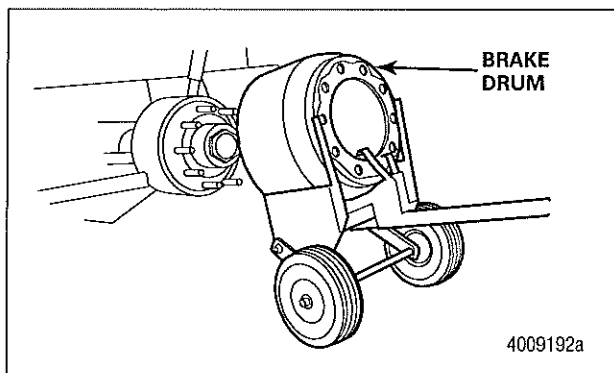

Figure 3
5. De-adjust and release the brakes. Remove the brake drum. Figure 3.